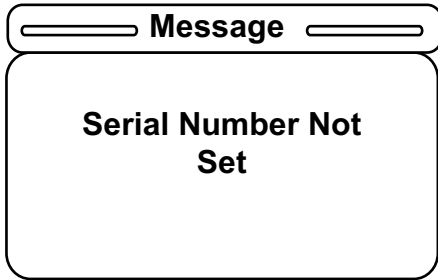

Figure 48 – Serial Number Not Set message
24. If you select **Current SN** without entering a serial number, the **Serial Number Not Set** message displays (Figure 48).